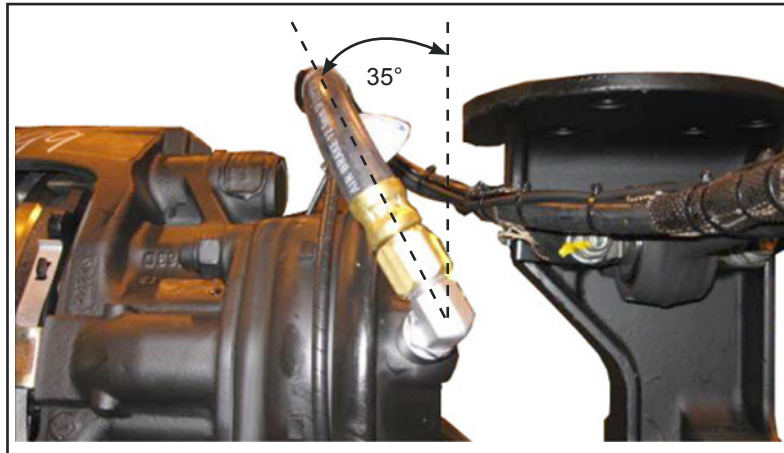

Figure 2 - 35° Brake Hose Angle
- 1.1.3. Ensure the brake hose position is as described in this document. See Figures 2 to 11.
- 2.4. Place the brake hose fitting on the brake cylinder at an approximate angle of 35° to the vertical, toward the exterior of the vehicle. See Figure 2.